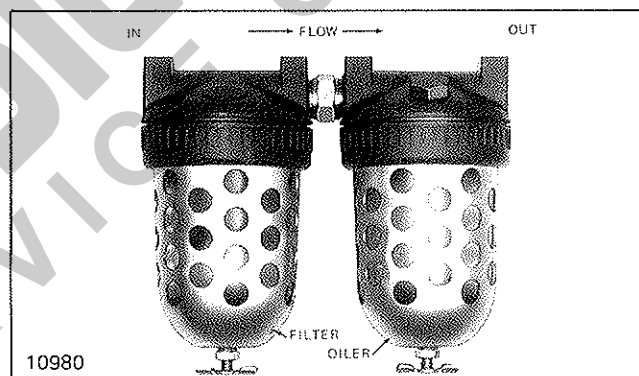

Figure 3. Air Filter and Lubricator Unit.
2. A filter lubricator unit (Figure 3) **must** be installed between air source and air hose leading to trolley. These keep air flowing to trolley free of dirt and add lubricant to air so internal parts of motor are constantly lubricated. Use a good grade of spindle oil, approximate viscosity 180 ssu at 100°F., air powered tool oil, or S.A.E. 10W machine oil. YALE distributors can provide filter-lubricator units.